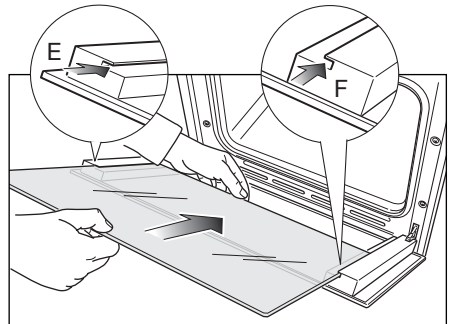
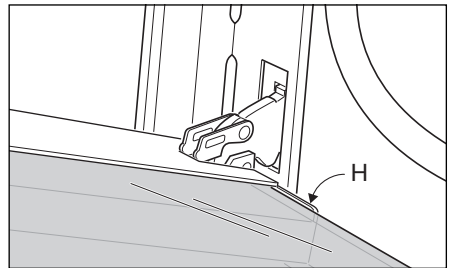

Fig.54b
Fig.54c
- Insert the pane in the left "E" and right "F" slide guides (Fig. 54b), and gently slide it to the retainers "H" (Fig. 54c).